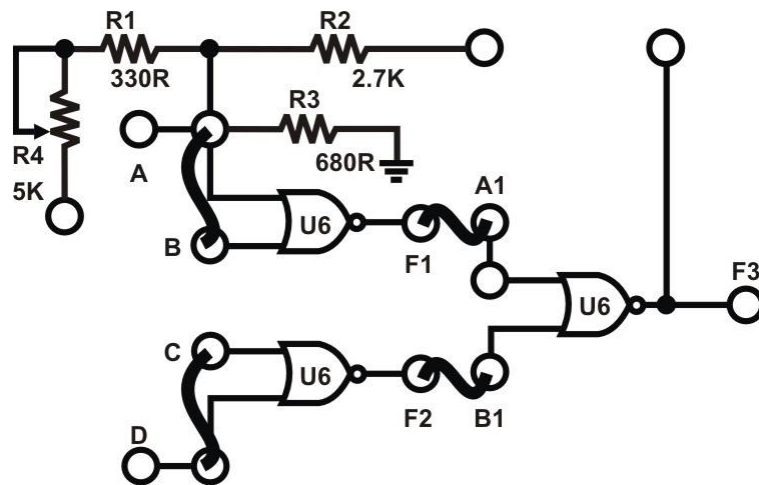

Figure 1.11: build AND gate using NOR gate using kits.
- g) From the above equation (F'') we can see that we can build AND gate using one NOR gate and two NOT gates. Insert connection clips according to Figure 1.11 below. Connect A to SW0; D to SW1; F1 to A1; F2 to B1; F3 to L1. Follow the input sequences given below, and record the output states in Table 1.5.